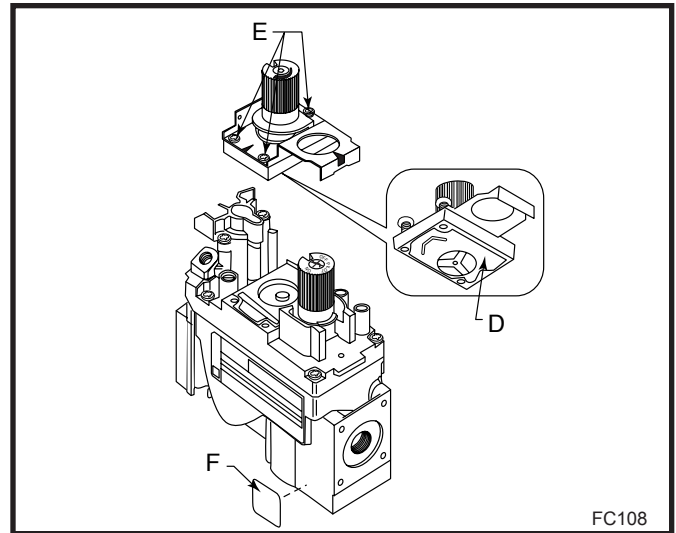

Fig. 61 Replace regulator.
2. Insure the rubber gasket (D) is properly positioned and install the new HI/LO pressure regulator assembly to the valve using the new screws (E) supplied with the kit. Tighten the screws securely. (Ref. torque = 25 in/lb) (Fig. 61)
3. Install the enclosed conversion label (F) to the valve body where it can easily be seen. (Fig.61)